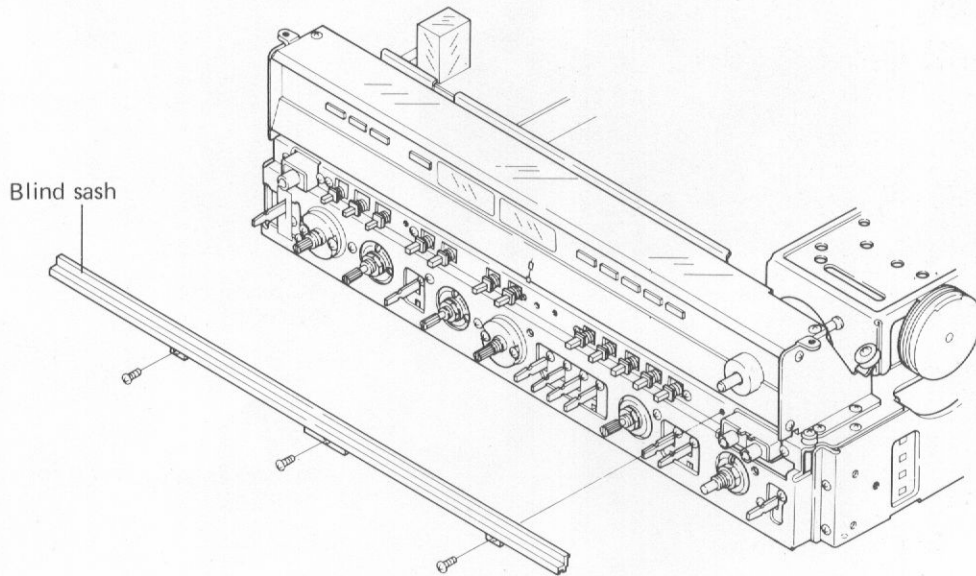

Fig. 26
2. Remove the three screws to detach the blind sash (Fig. 26).